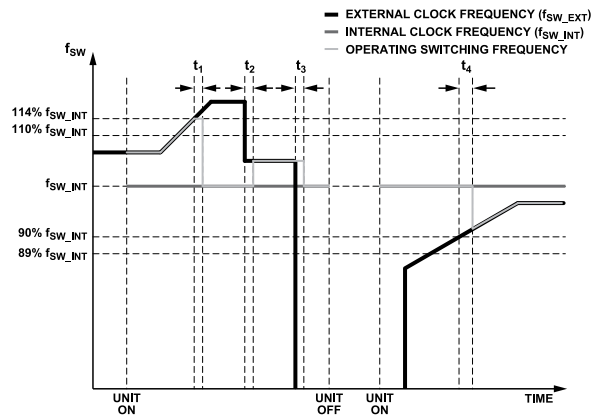

Figure 15. Synchronization Operation
2. If all periods of the most recent 64 consecutive cycles of the external clocks fall within 90% to 110% of the internal switching clock period, the ADP1050 uses the latest current cycle as the synchronization reference, and the period of the external clock is identified. This interval is t_2 or t_4 , as shown in Figure 15. Otherwise, the ADP1050 discards this cycle and looks for the next cycle (frequency capture mode).
t_1 or t_3 , as shown in Figure 15. This is the first synchronization unlock condition, called Synchronization Unlocked Mode 1, in which the switching frequency is out of range (range is 89% to approximately 114% of the internal programmed frequency).
Figure 15 shows the synchronization operation diagram. The internal frequency, f_{SW_INT} , is the internal free-running frequency of the ADP1050. Before the synchronization is locked, the ADP1050 runs at f_{SW_INT} . The external frequency, f_{SW_EXT} , is the frequency of the external clock to which the ADP1050 must synchronize. After synchronization is locked, the ADP1050 runs at f_{SW_EXT} .